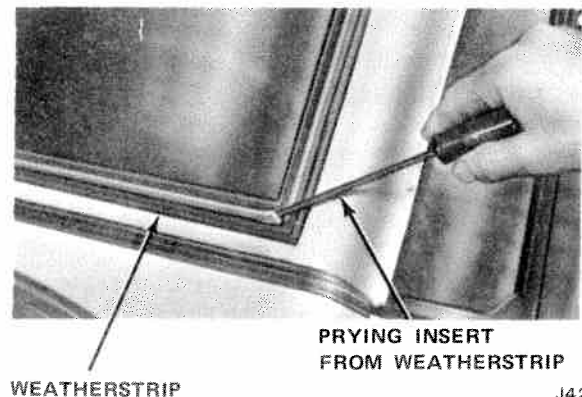

Fig. 17-1 Removing Windshield Moulding Insert from Weatherstrip
(1) Cover adjoining painted surfaces to protect finish.
(2) Remove windshield wiper arms using a wiper arm removal tool if available. If not, use a wide blade screwdriver.
(3) On vehicles so equipped, remove the windshield insert moulding or V-shaped rubber strip from around the outside of the windshield using a screw-driver blade and carefully pry the insert from the slit in the weatherstrip (fig. 17-1).